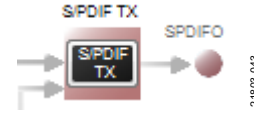

Figure 44. Confirming the DSP Core Outputs Are Routed to the S/PDIF Transmitter
- Confirm the DSP core outputs are routed to the S/PDIF transmitter by verifying that the color of the **S/PDIF TX** box changes from gray to black (see Figure 44). If the color of the box changes to black, the DSP core is successively routed to the S/PDIF transmitter, allowing the output of **ASRC 0** to be used in the DSP program.